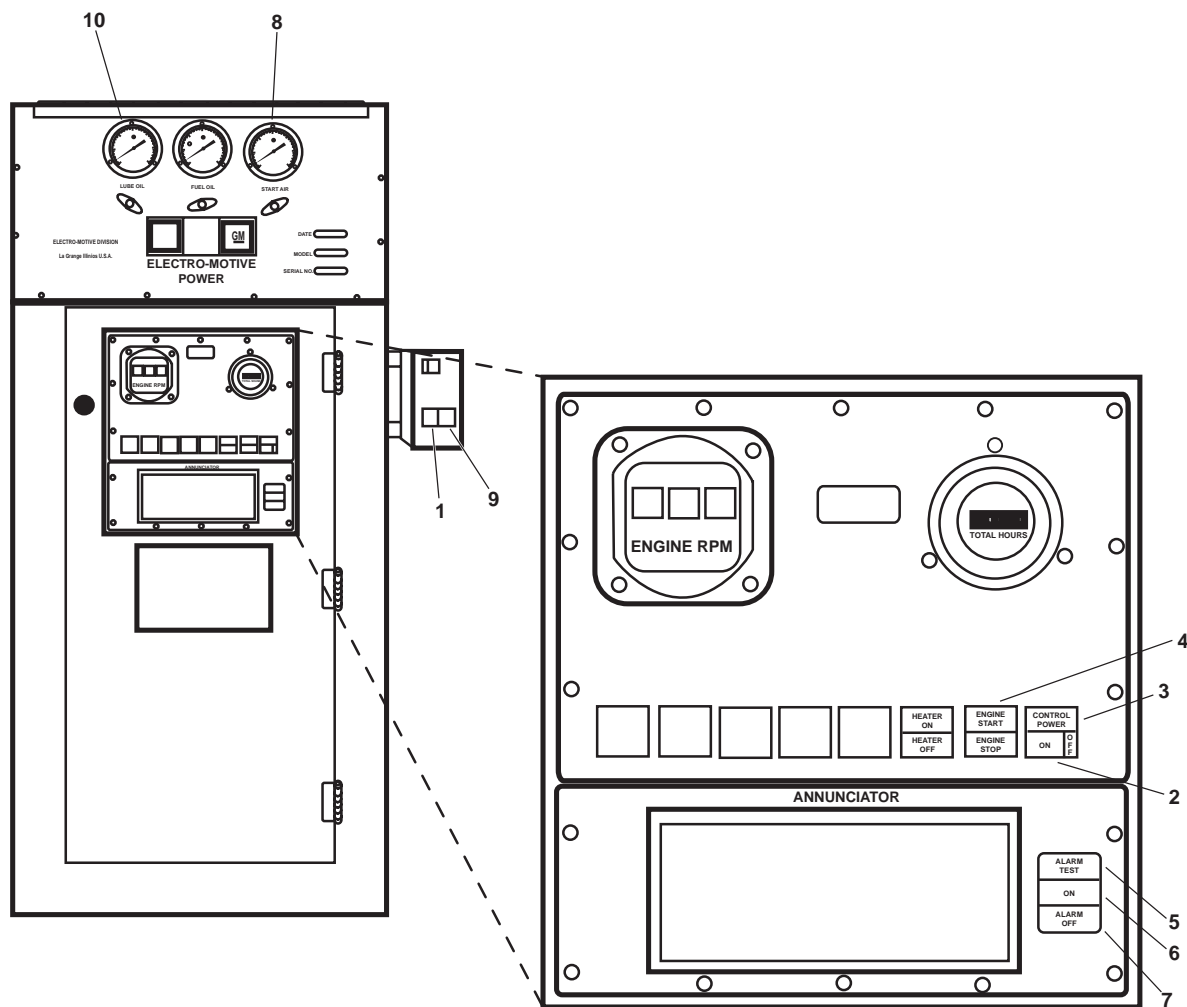

Figure 4. Starboard Main Engine Control Panel
7. PUSH the START pushbutton (figure 4, item 1) for the prelube pump.
- a. Press the CONTROL POWER pushbutton (figure 4, item 2), and verify that the CONTROL POWER indicator (figure 4, item 3) is illuminated.
- b. Momentarily press and release the ENGINE START pushbutton (figure 4, item 4) to start the turbocharger lube oil pump.
- c. Verify that the ALARM TEST indicator (figure 4, item 5) is illuminated.
- d. Verify that the power ON indicator (figure 4, item 6) is illuminated.
- e. Verify that the ALARM OFF indicator (figure 4, item 7) is illuminated.
- f. Verify that the START AIR pressure gauge (figure 4, item 8) indicates approximately 200 PSI (13.8 bar).
- c. Press and hold the ENGINE START pushbutton (figure 4, item 4) to crank the engine for 1-2 complete revolutions. Release the ENGINE START pushbutton when finished cranking.